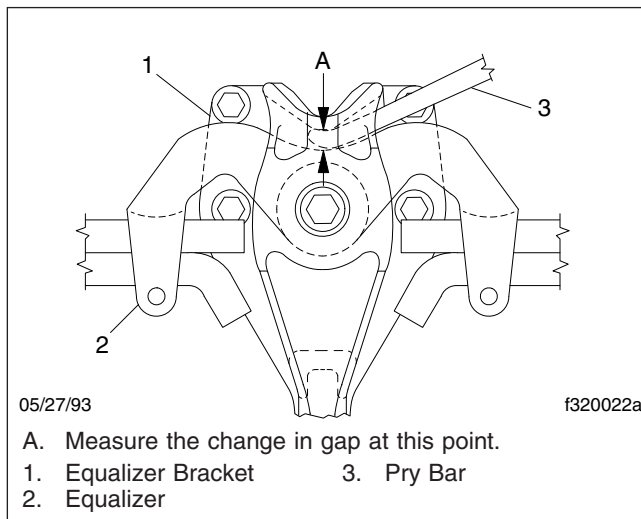

Fig. 4, Side View of the Equalizer
- Block up the frame enough to take chassis weight off the springs. Attempt to move the equalizer up and down, using a pry bar between the top of the equalizer and top of the equalizer bracket; apply hand pressure only. See **Fig. 4**. If movement at the center of the equalizer exceeds 1/8 inch (3 mm), replace the equalizer bushings. See **Group 32** of the *Columbia® Workshop Manual* for instructions.